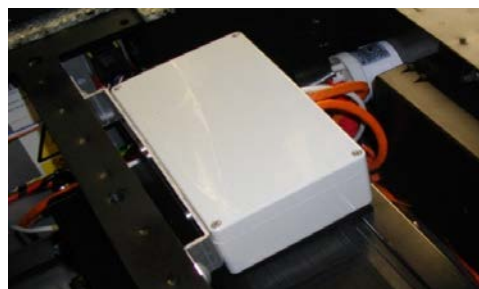

Fig.15
- Screw BRCAN electrical base plate cover in place (4 screws) **(Fig.15)**.